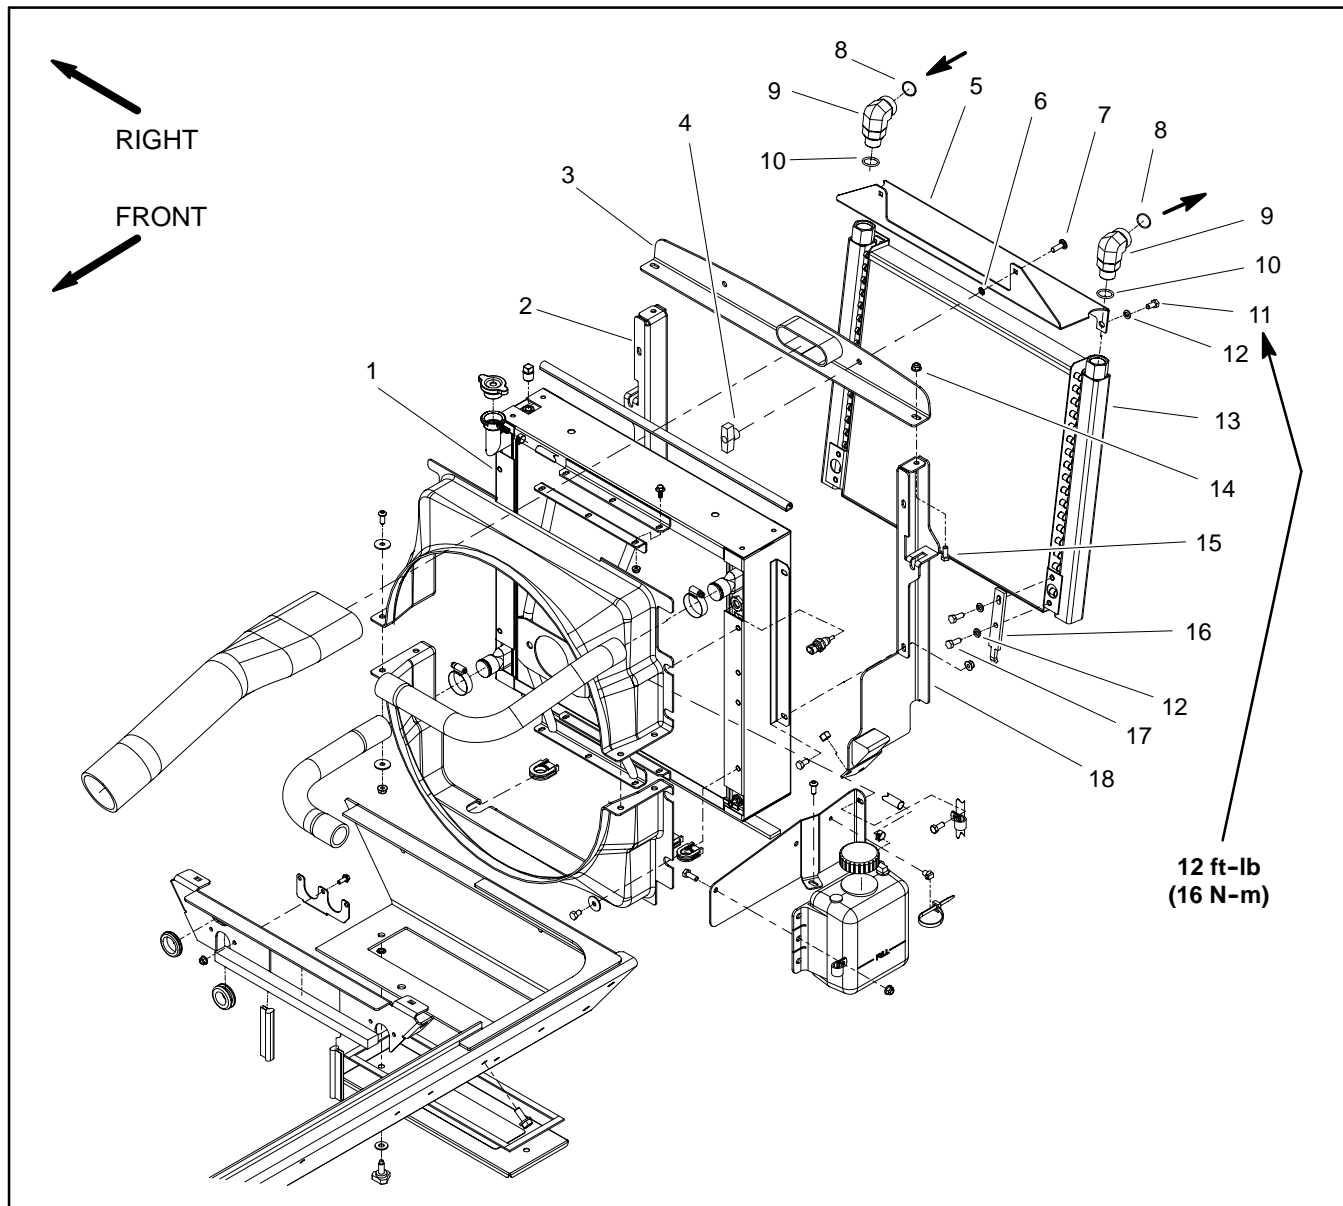

Figure 48
Removal (Fig. 48)
3. Remove oil cooler using Figures 48 as a guide.
Installation (Fig. 48)
1. Install oil cooler using Figures 48 as a guide.